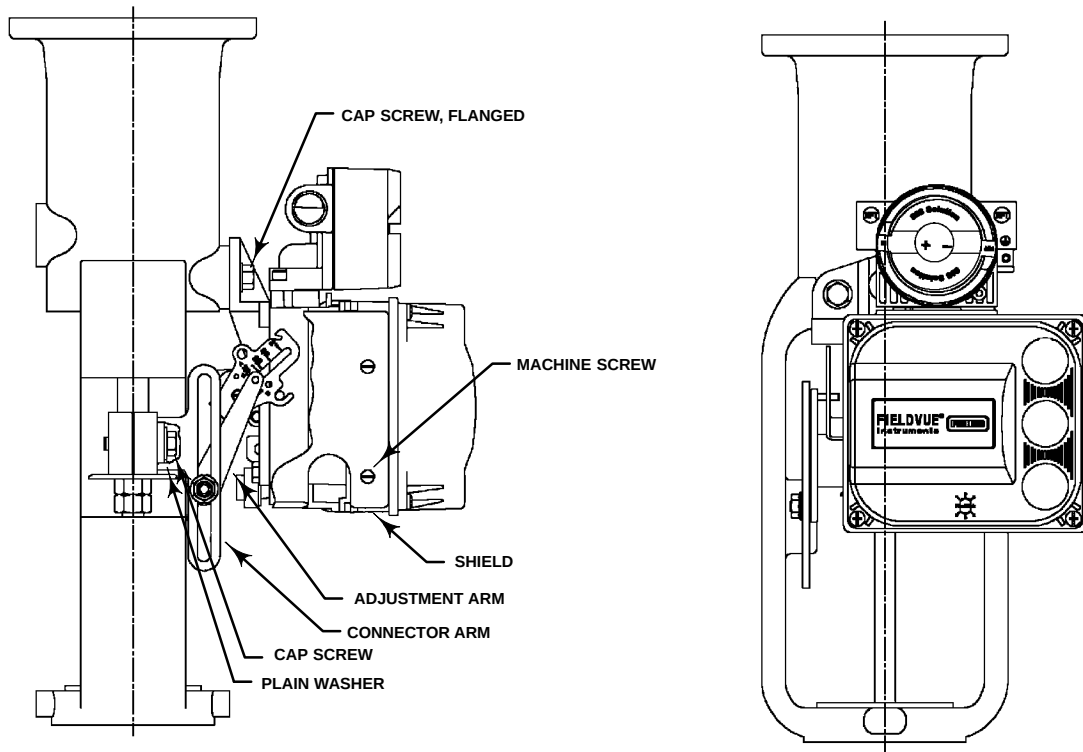
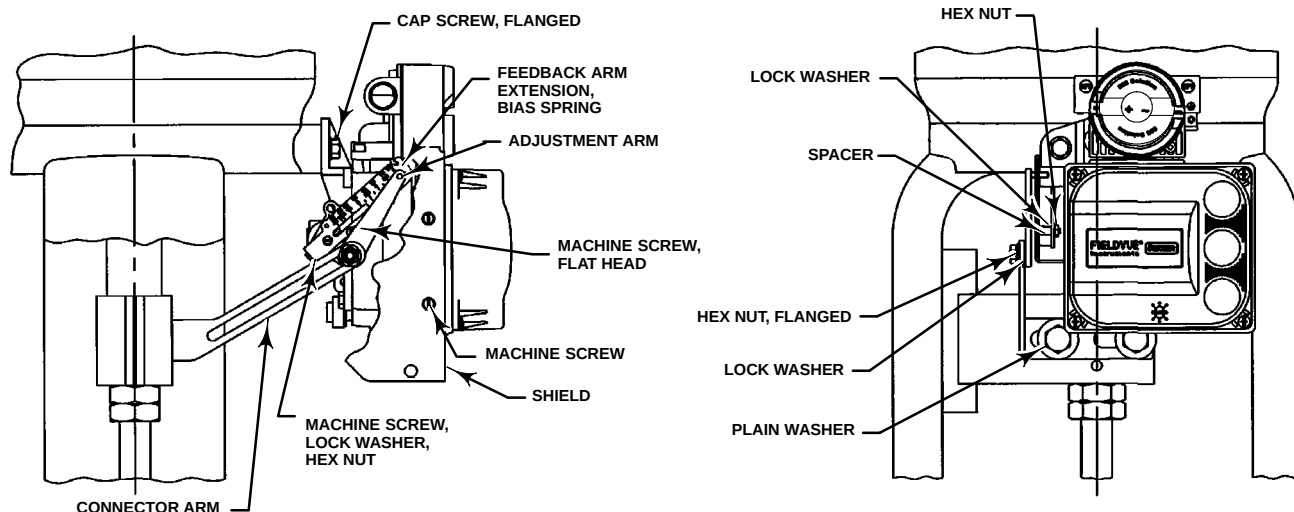

Figure 2-1. FIELDVUE DVC6010 SIS Digital Valve Controller Mounted on Sliding-Stem Actuators with up to 2 Inches Travel
Figure 2-2. FIELDVUE DVC6010 SIS Digital Valve Controller Mounted on Sliding-Stem Actuators with 2 to 4 Inches Travel
The DVC6010 SIS digital valve controller mounts on sliding-stem actuators with up to 102 mm (4 inch) travel. Figure 2-1 shows a typical mounting on an actuator with up to 51 mm (2 inch) travel. Figure 2-2 shows a typical mounting on actuators with 51 to 102 mm (2 to 4 inch) travel. For actuators with greater than 102 mm (4-inch) travel, see the guidelines for mounting a DVC6020 SIS digital valve controller.
4. If valve travel exceeds 2 inches, a feedback arm extension is attached to the existing 2-inch feedback arm. Remove the existing bias spring (key 78) from the 2-inch feedback arm (key 79). Attach the feedback arm extension to the feedback arm (key 79) as shown in figure 2-2.
6. Set the position of the feedback arm (key 79) on the digital valve controller to the no air position by inserting the alignment pin (key 46) through the hole on the feedback arm as follows:
The DVC6015 remote feedback unit mounts on sliding-stem actuators with up to 102 mm (4-inch) travel. Figure 2-1 shows a typical mounting on an actuator with up to 51 mm (2 inch) travel. Figure 2-2 shows a typical mounting on actuators with 51 to 102 mm (2 to 4 inch) travel. For actuators with greater than 102 mm (4 inch) travel, see the guidelines for mounting a DVC6025 remote feedback unit.
6. Set the position of the feedback arm (key 79) on the remote feedback unit to the no air position by inserting the alignment pin (key 46) through the hole on the feedback arm as follows: